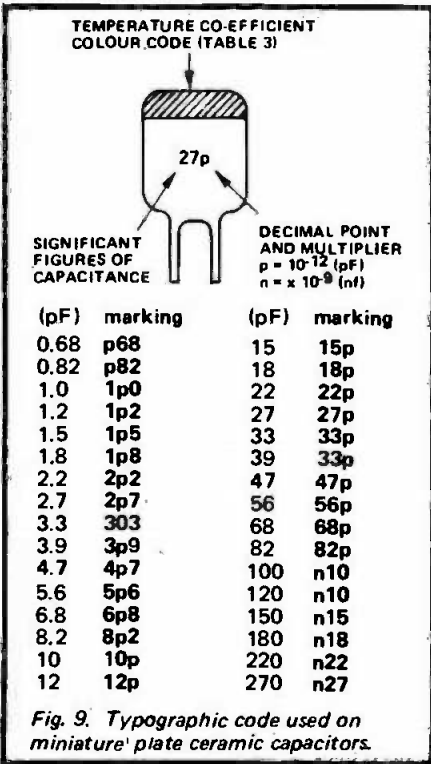

Fig. 9. Typographic code used on miniature plate ceramic capacitors.
The typographic codes used on ceramic capacitors are illustrated in Figs 9, 10 and 11.
The code used on miniature plate ceramic capacitors, typical of the type manufactured by Philips, is illustrated in Fig 9. The value is indicated in farads, the letters p and n being used as a multiplier and to indicate the decimal point. If the multiplier is omitted, the value is indicated directly in pF. The temperature coefficient is indicated by a
coloured band on top of the capacitor, the characteristic can be obtained from Table 3. Values below 100 pF (In) are generally Low-K, temperature compensating (TC) types. Hi-K types will not have the coloured band. Typical markings and corresponding values for low value capacitors are shown in the table on the right of Fig 9.